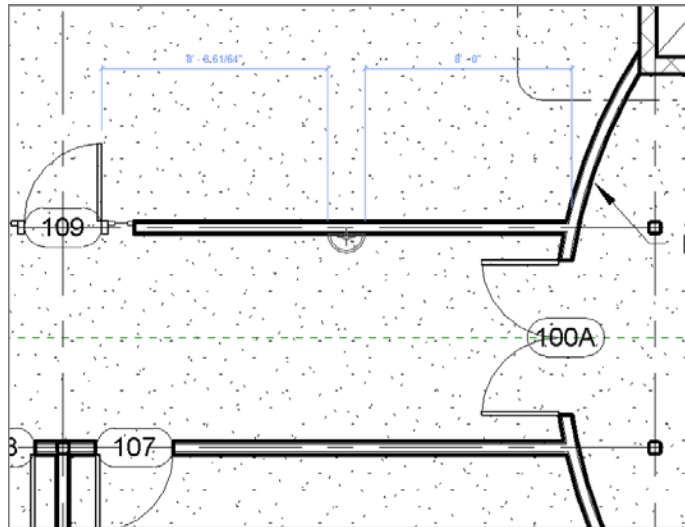

FIGURE 9.49: Adding a sconce
5. Add the sconce to the corridor wall, as shown in Figure 9.49.